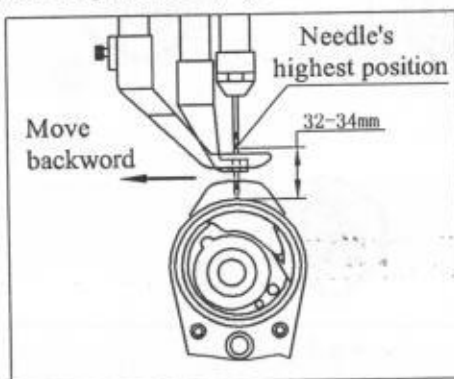

Fig 8
4.1.1 Turn the pulley in correct direction. When the needle descends about 32-34mm from highest position the needle and the inner presser foot begin to move backward.(Fig 8) To adjust it, proceed as follows